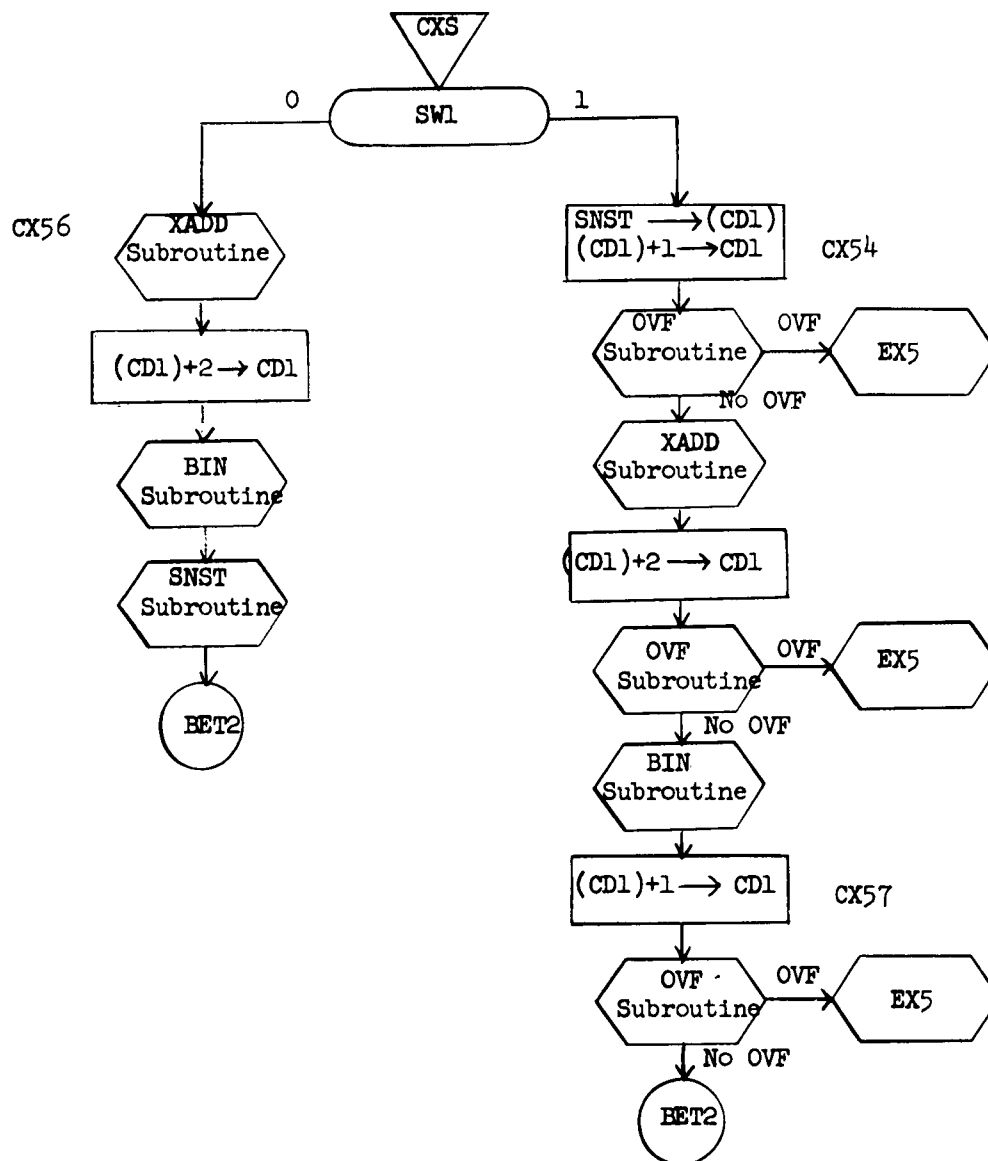

Figure 7.13 CXS
7.2.3.10 CXS SNAP COMMAND (Figure 7.13)